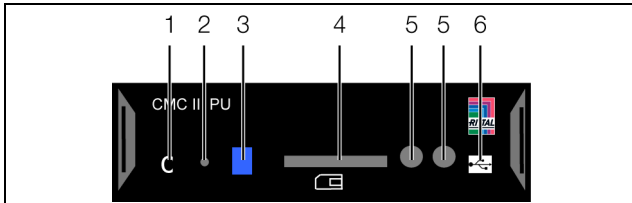
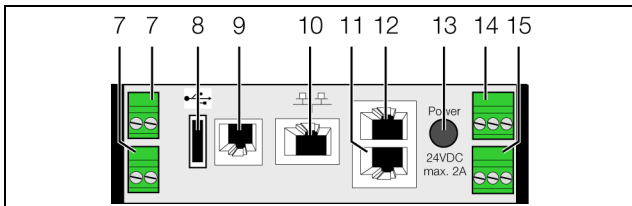

Fig. 10: Front of the CMC III PU
Fig. 11: Rear of the CMC III PU
Legend for fig. 10
Legend for fig. 11
A multi-LED for the status display is integrated at the front of the CMC III PU (fig. 10, pos. 3). Further LEDs are also located on the rear of the CAN bus connection (fig. 11, pos. 11 and 12) and on the Ethernet interface (fig. 11, pos. 10).
- Connect the device with a network cable using the Ethernet interface to your computer (fig. 11, pos. 10).
- Connect the CMC III PU with a network cable with your Ethernet LAN (fig. 11, pos. 10).